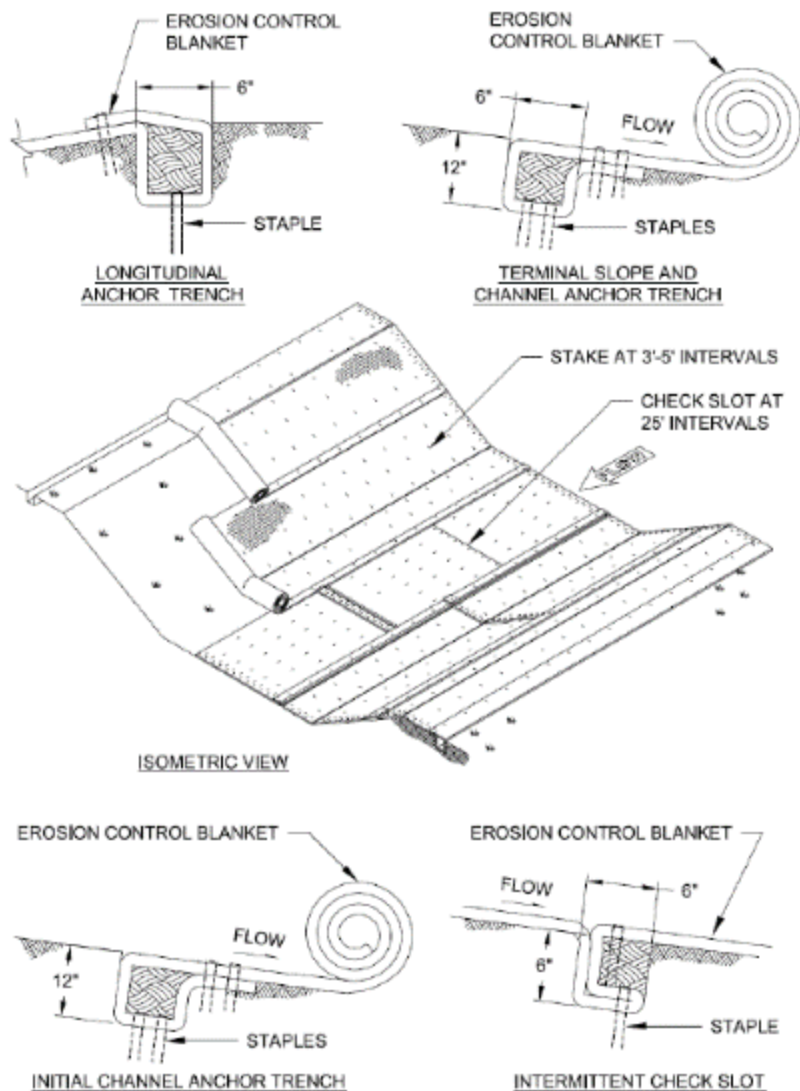

Figure 1: channel coir mat installation
- If soils are unstable and an erosion control practice is determined to be necessary below the OHWM, coir mat shall be installed along the banks. Install only the coir as shown along the upper (outermost) banks within the detail (Figure 1). Install coir so that any upstream mat is laid over any downstream mat where they meet. Overlap should be 12" with staples installed through overlap (refer to CSSM BMP E1.15).